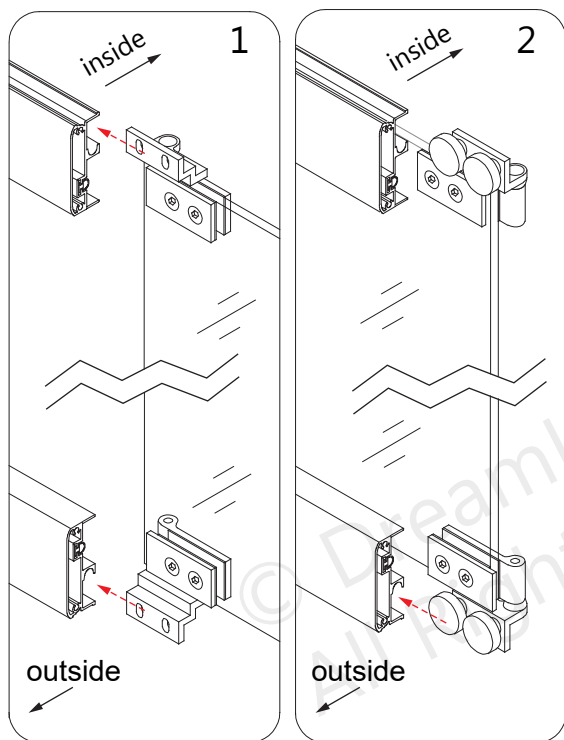
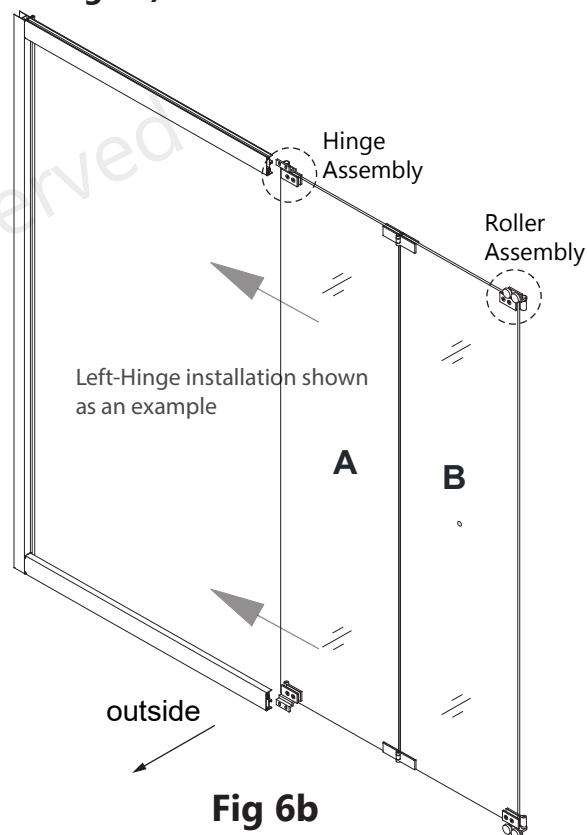

Fig 6a
Fig 6b
6. Slide Hinge Assembly (#13) side of the door glass assembly into the channel of the top and bottom Guide Rails (#03) from the right side, followed by the Roller Assemblies (#12). (Fig 6a and Fig 6b)